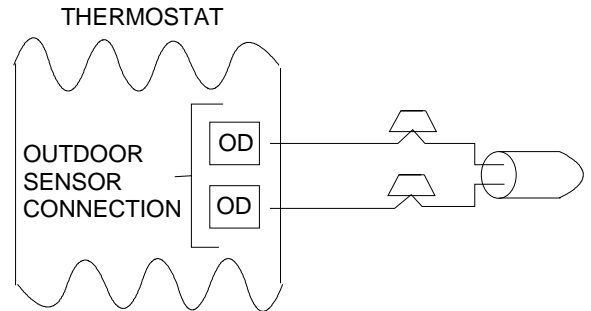

Fig. 2 - Thermostat Direct Connection
- 5) Connect other end as shown in Fig. 2